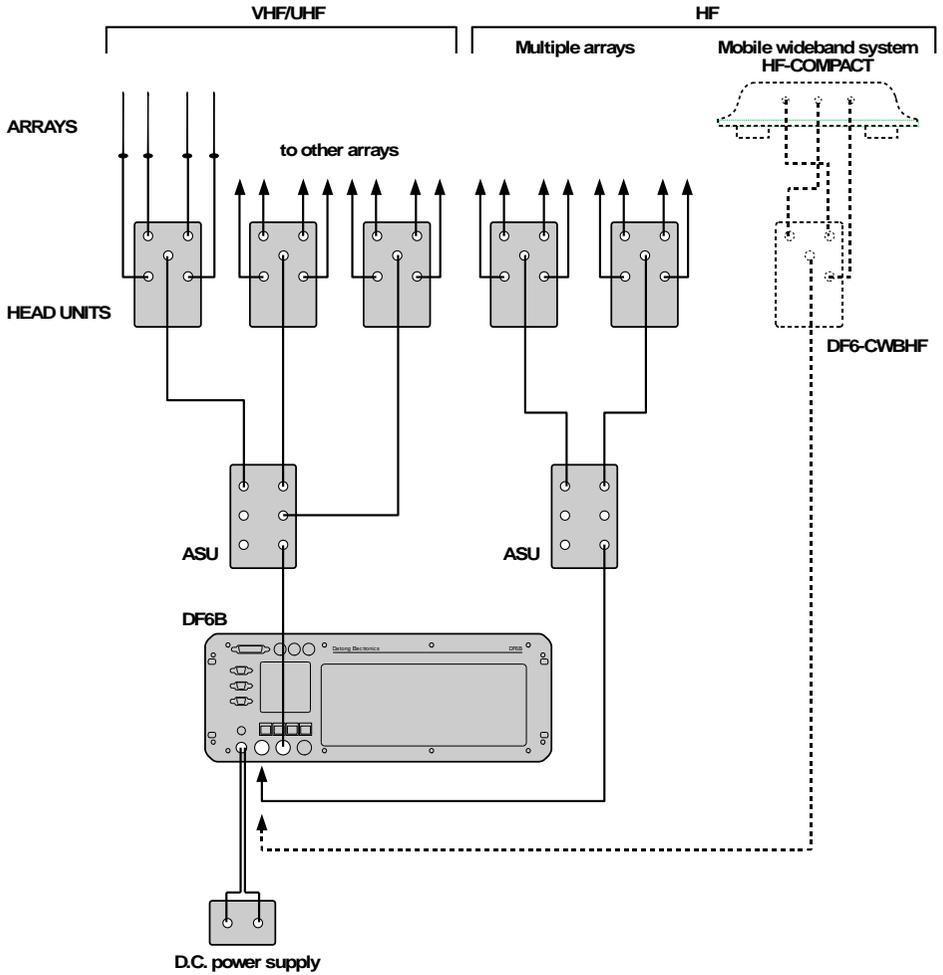

Figure 3.1 Typical Installations
3.1 Interconnections (Figure 3.1)
Figure 3.1 shows the components and interconnections for typical installations with multiple arrays, and a mobile installation using the HF-COMPACT array for wideband coverage. An ASU is required for multiple arrays.